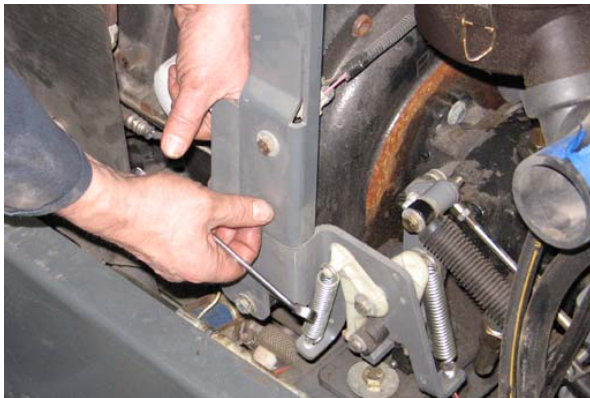

FIG. 17
27. Reinstall the air cleaner assembly/air cleaner assembly bracket onto the machine. (Fig. 17)